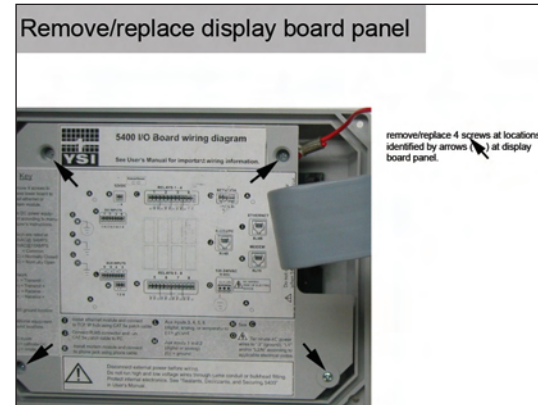

Figure 3.6
3. Remove and retain four screws that secure display board into top panel enclosure - figure 3.6. (Display board is mounted on panel attached to 5400 top panel. I/O Board wiring diagram is located on the display board panel.)
- Replace four screws to reattach display board panel to front panel enclosure - figure 3.6.